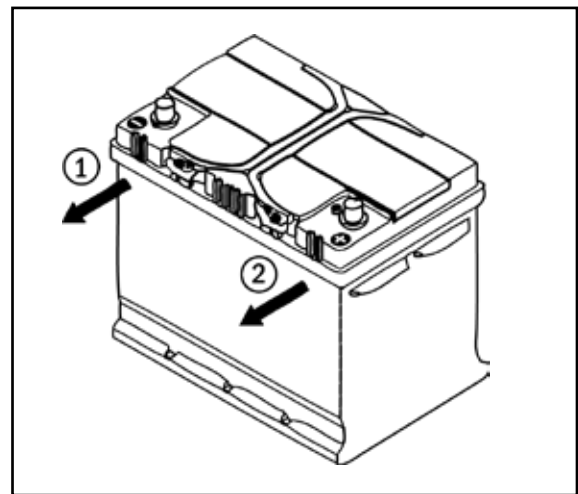

Fig. 1: Disconnecting the battery
- Disconnect the NEGATIVE terminal first and then the POSITIVE terminal (see Fig. 1).